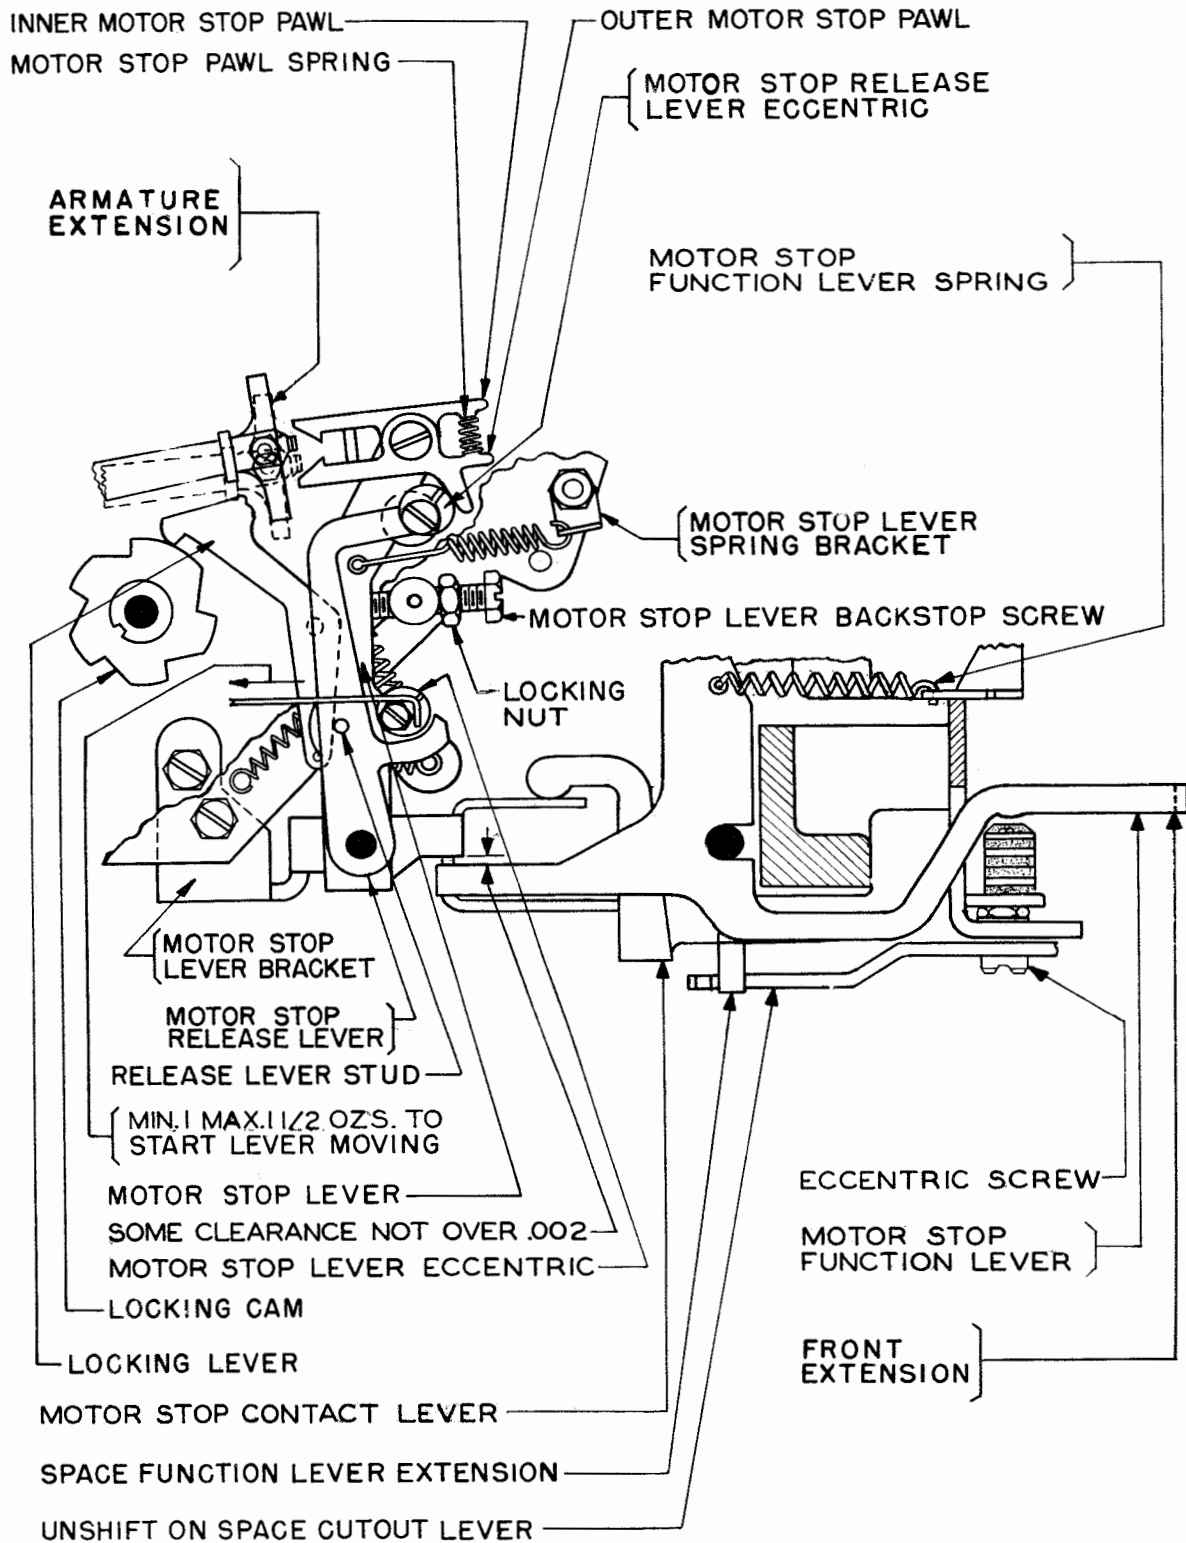

Figure 2
To Adjust: Position the motor-stop-lever bracket, keeping the motor-stop-pawl backstop clear of the inner pawl. (See Figure 2.)
2.02 The Motor-stop-lever Eccentric should be in contact with the lower arm of the motor-stop release-lever when (1) the main-shaft is rotated until the printing bail is in its extreme rear position and the locking-lever is on the high part of its cam, (2) the armature is in its operated position, (3) the inner motor-stop pawl is engaged with the pawl latch, and (4) the motor-stop release-lever stud is touching the locking-lever. Gauge by eye and feel. (See Figure 2.)
2.03 The Motor-stop-lever lower edge should clear the motor-stop function-lever rear extension by not more than 0.002 inch when (1) the platen is in the LTRS position, (2) the motor-stop combination is set up, (3) the main-shaft is rotated until the printing bail is in its extreme forward position, and (4) the motor-stop pawls are released from the latch. (See Figure 2.)
2.05 The Motor-stop Release-lever Eccentric should just touch the outer motor-stop pawl when (1) the main-shaft is rotated until the printing bail is in its extreme rear position and the locking-lever is on the high part of its cam, (2) the armature is held in its operated position, (3) the inner motor-stop pawl is engaged with the motor-stop pawl latch, (4) the lower arm of the motor-stop release-lever is in contact with the motor-stop-lever eccentric, and (5) the outer pawl is against the motor-stop-pawl backstop. Gauge by eye and feel. (See Figure 2.)
2.07 The Motor-stop-lever Spring should have a tension of minimum 1 ounce, maximum 1-1/2 ounces measured on the head of the motor-stop-lever eccentric when the motor-stop-contact-lever spring is unhooked and the motor-stop lever is in the unoperated position. (See Figure 2.)